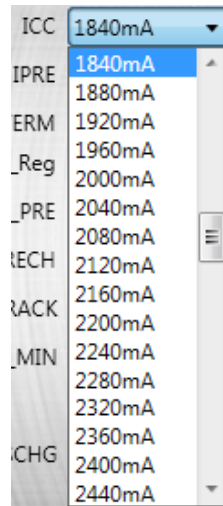

Figure 8: Constant Charge Current Setting
- Set the constant charge current (see Figure 8). The constant charge current ranges between 320mA and 4520mA, and the default charge current is set to 1840mA. The real charge current is limited to the input current limit setting.